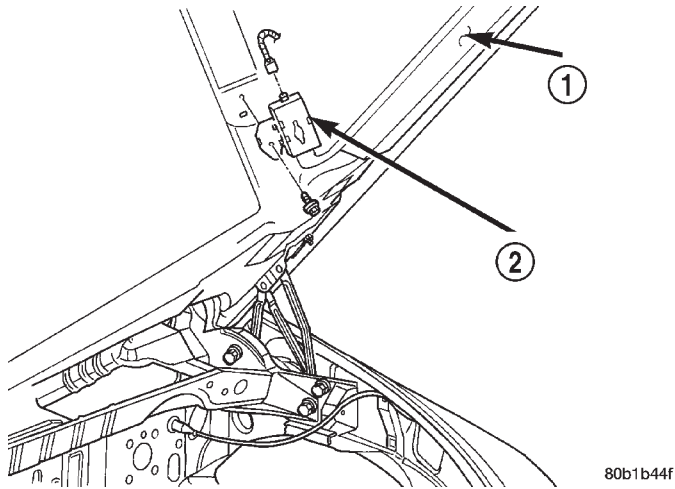

Fig. 9 Underhood Lamp Removal
- (1) Disconnect the wire harness connector from the lamp.
- (2) Remove lamp lens.
- (3) Remove bulb.
- (4) Remove screw attaching underhood lamp to the inner hood panel (Fig. 9).
- (5) Separate underhood lamp from vehicle.
- (1) Install bulb.
- (2) Install lamp lens.
- (3) Position the underhood lamp on the hood inner panel.
- (4) Install the attaching screw through the lamp and into the hood panel (Fig. 9). Tighten the screw securely.
- (5) Fold lamp housing over and firmly press onto base to snap into place.
- (6) Connect the wire harness connector to the lamp.